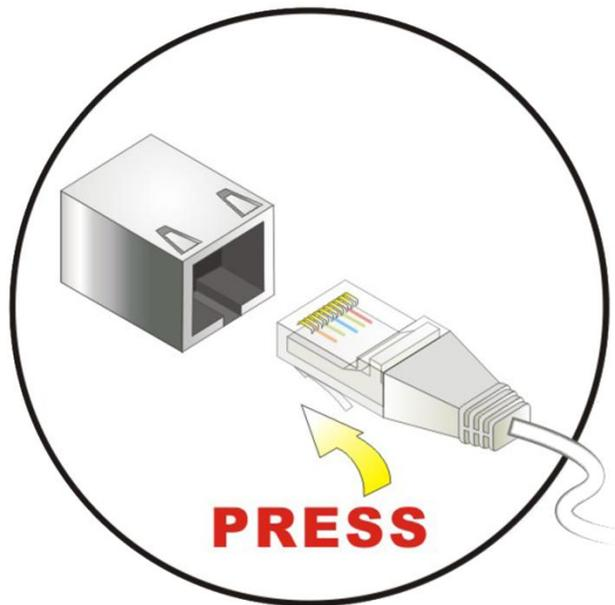

Figure 5 – LAN Connection
Step 2: Align the RJ-45 connector on the LAN cable with the RJ-45 connector on the rear panel of the MBB200C (see Figure 5).